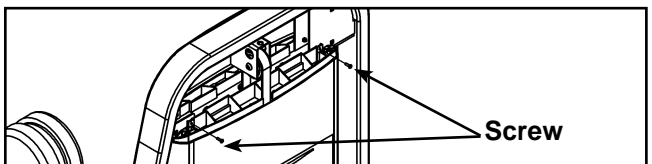

Figure 5
- G. Remove the top two screws securing the back shroud. See Figure 5.